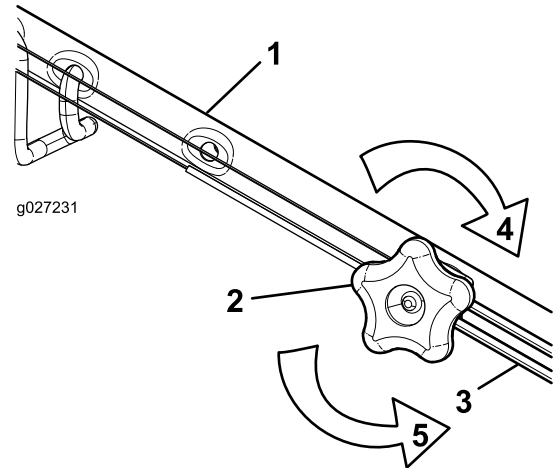

Figure 37
1. Turn the adjustment nut counterclockwise to loosen the cable adjustment (Figure 37).
2. Adjust the tension on the cable (Figure 37) by pulling it back or pushing it forward and holding that position.